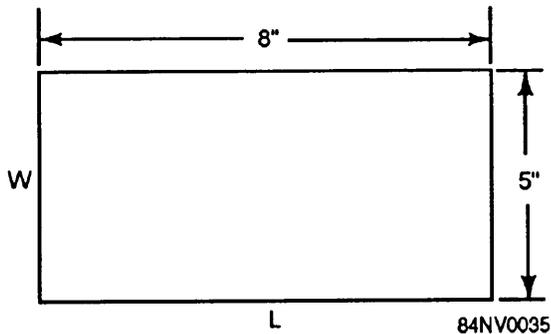

Figure 14-35.—Two-dimensional view.
To find the area (A) of the rectangle shown in figure 14-35, you must multiply the length (L) by the width (W) or  $A = LW$ . Since  $L = 8$  inches and  $W = 5$  inches,  $A = 8 \times 5 = 40$  square inches.